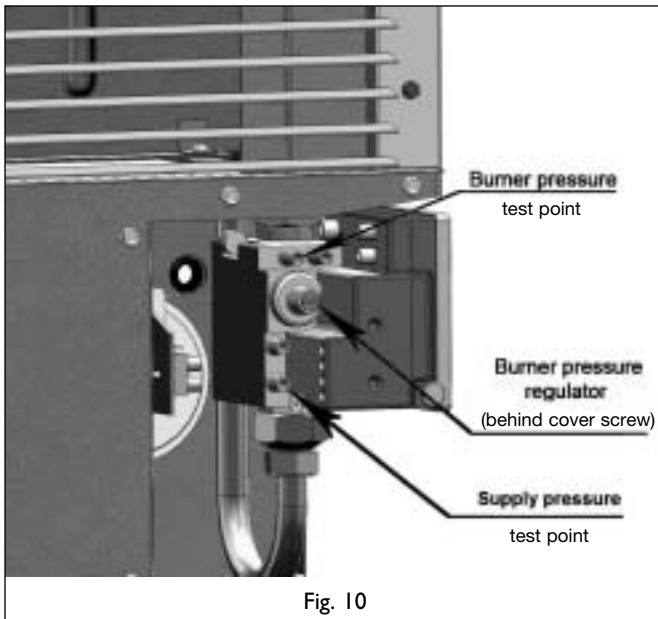

Fig. 10
- Adjust the burner pressure for propane, using the test point and the adjusting screw; see fig. 10. Appendix 3 contains the required gas pressure for the various versions of the appliance.
Proceed as follows; see fig. 10: